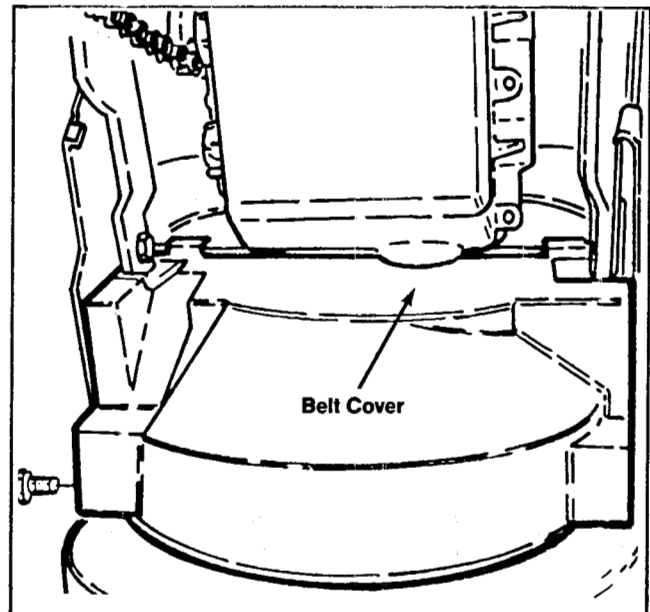

Figure 125
9. If this is the first time the differential kit is being installed and the product was produced in '88, install the new belt cover as shown in Figure 125. This belt cover provides clearance for the differential when the wheels are in the forward position.